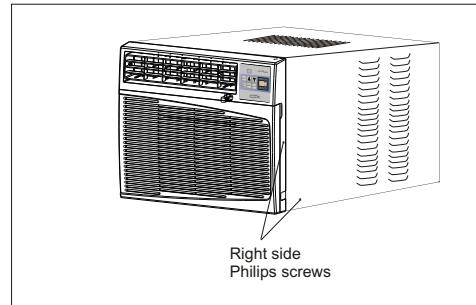

Fig. 1
See (Fig. 1).
B. Secure the front grille to the cabinet using the Philips screws removed earlier(Fig. 1).